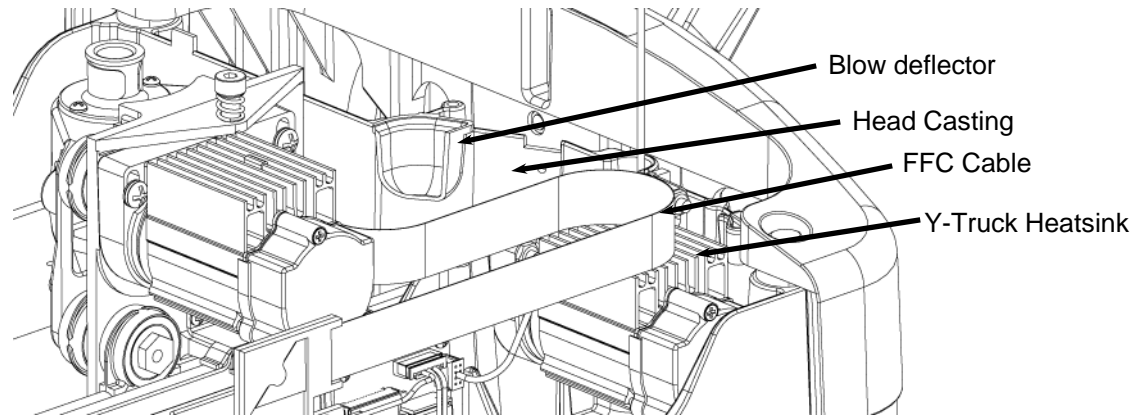

FIGURE 14: PLACEMENT OF THE BLOW DEFLECTOR
- a. Move the Y-truck all the way to the left side of the machine and make sure that the FFC cable does not drag on the Y-truck heatsink (See Figure 14). If the FFC cable is dragging bend it upwards so that it consistently clears the heatsink.